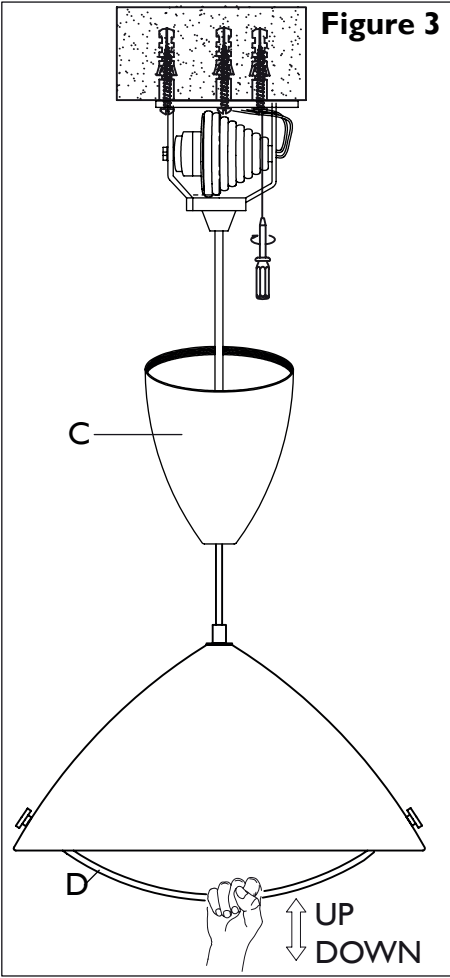

Figure 3
See Figure 3. Fix the ceiling cover to the ceiling using the supplied screws. Screw the pulley cover (C) on to the ceiling cover to hide the pulley.
See Figure 3. This product uses a pulley system to adjust the drop of the product and can be adjusted when required. To make the drop longer on the fitting, gently pull the handle (D) downwards. To make the drop shorter carefully push the handle upwards.